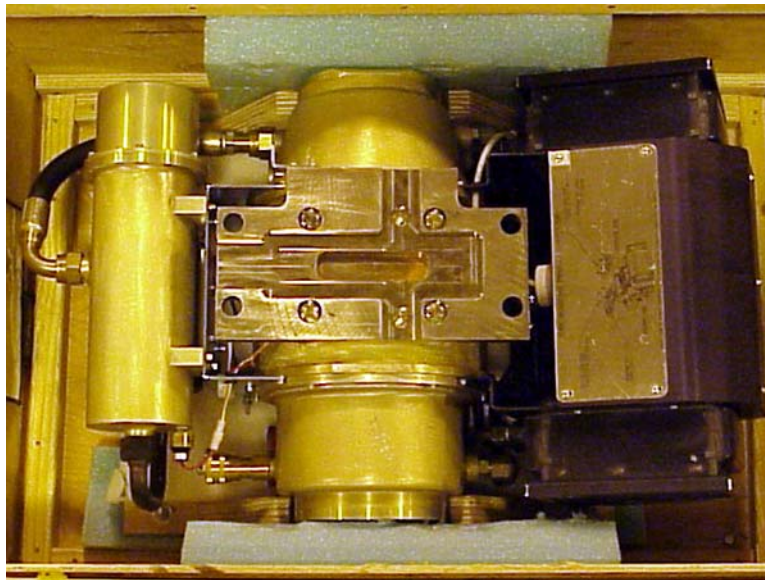

Figure 30 - Tube Shipped with Mounting Plate Attached
- 14.) If the new tube has a factory installed mounting plate (see Figure 30), **DO NOT REMOVE IT.** Skip to steps 15 and 16.
2.) If the new tube has a factory installed mounting plate (see Figure 30), **DO NOT REMOVE IT.** Skip to step 4.